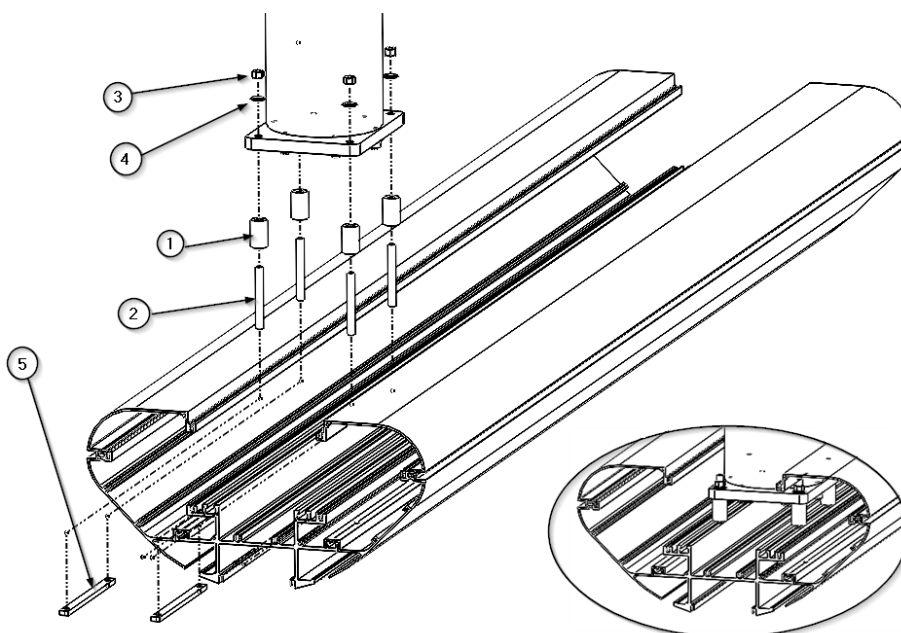

Fig. 43 Diagram of the anchoring of an ARES service head on a downspout
Inside the service head are the spacers ①, M8 x 80mm threaded bolts ②, M8 hex nuts ③, S10 lock washers ④ and platens ⑤ required for fixing to the downpipes. See figure 43.